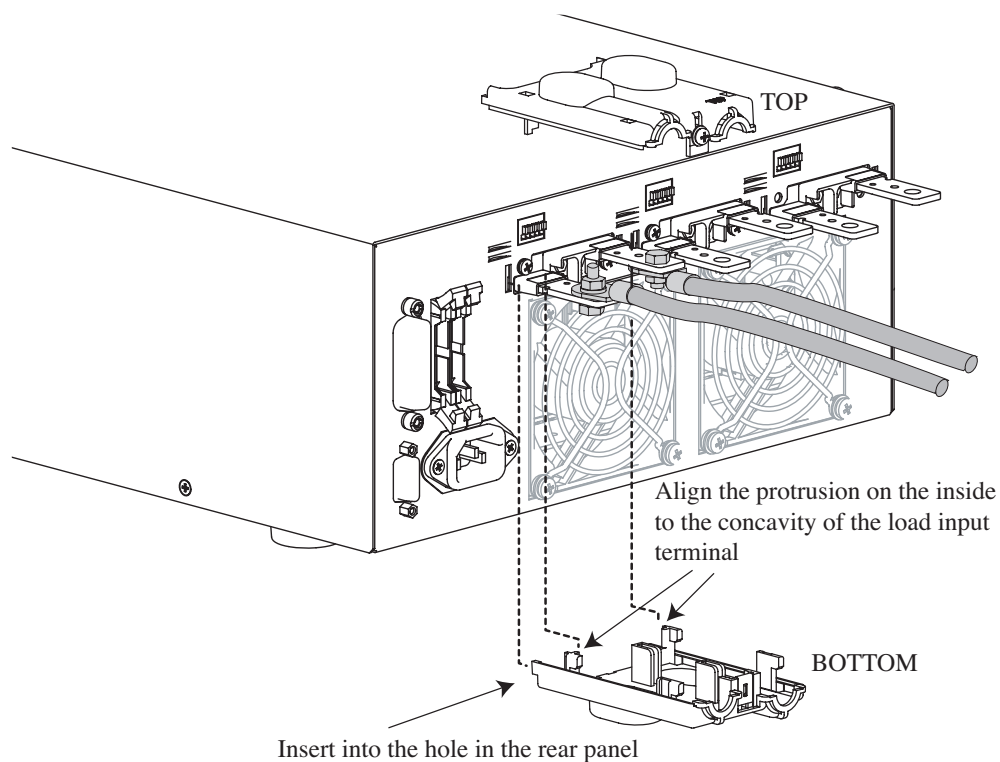
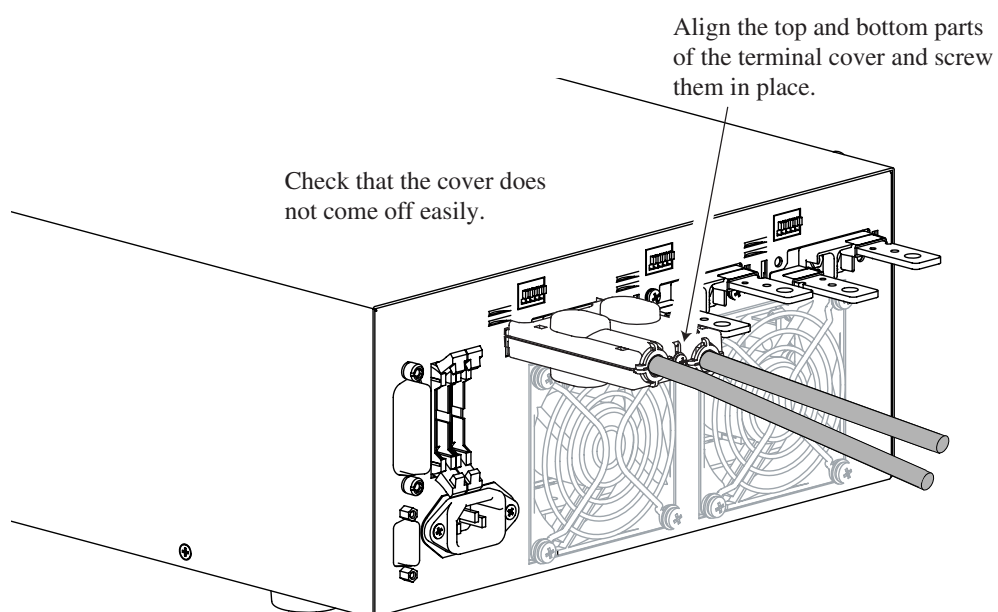

Fig. 2-12 Attachment of the load input terminal cover on the rear panel 1
Fig. 2-13 Attachment of the load input terminal cover on the rear panel 2
4. Attach the load input terminal cover on the rear panel. For details on how to use the terminal cover, see Fig. 2-12 and Fig. 2-13.